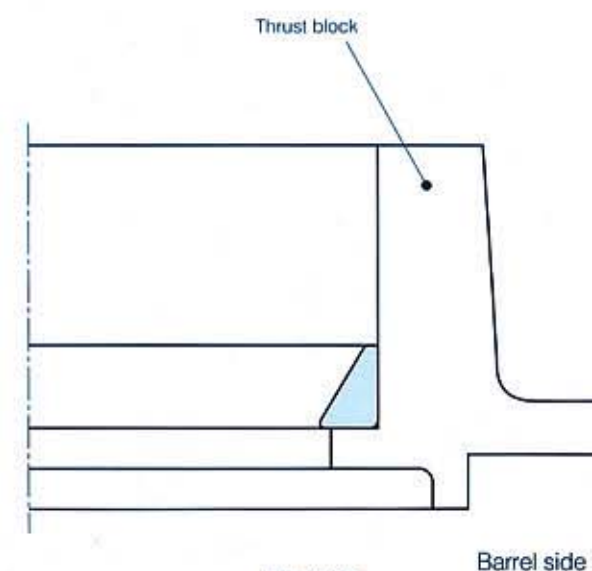
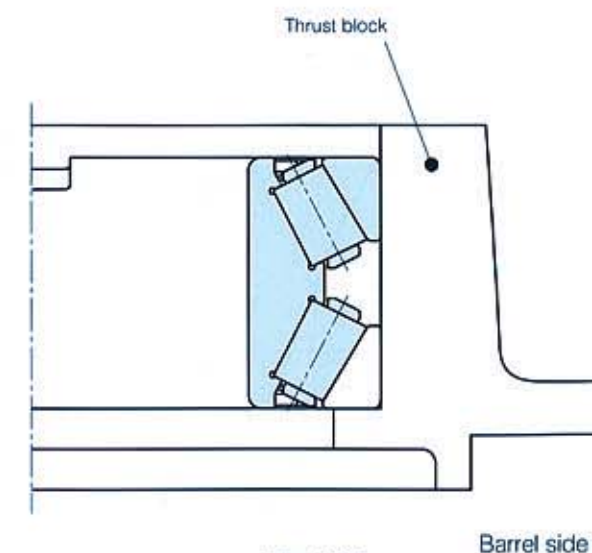

Fig. 3.34
Fig. 3.35
- (1) Set the thrust block with the barrel side down.
- (2) Apply the lubricant to the thrust block bore surface.
- (3) Apply the lubricant over all the cup surfaces with matching symbol A.
- (4) Lift the cup with a lifting tool and insert it slowly into the thrust block. (Fig. 3.34)
- (5) When the cup has a spacer, apply the lubricant to the cup spacer and insert it slowly into the block.
- (6) Apply the lubricant to the cone bore surface and both end surfaces, the roller's rolling surface, and both end surfaces, and the cup with matching symbol B. Rotate the cage and rollers to spread the lubricant to the cone raceway and rib surfaces.
- (7) Place the cup with matching symbol B on the cone assembly with matching symbol A down, install eyebolts into the four tapped holes in the cage. Lift them and insert slowly into the thrust block. (Fig. 3.35) For a window type press cage, use a lifting tool as shown in Fig. 2.1.
- (8) For a bearing without cup spacer and for which preloading is made with a spring, adjust the clearance according to the procedure described in Section 3.4.2.
- (9) Installing (removing) the holder lid. The holder lid is available in various shapes due to the diversity of recent rolling mills. Install (remove) the holder lid in compliance with the maintenance manual of the mill builder.